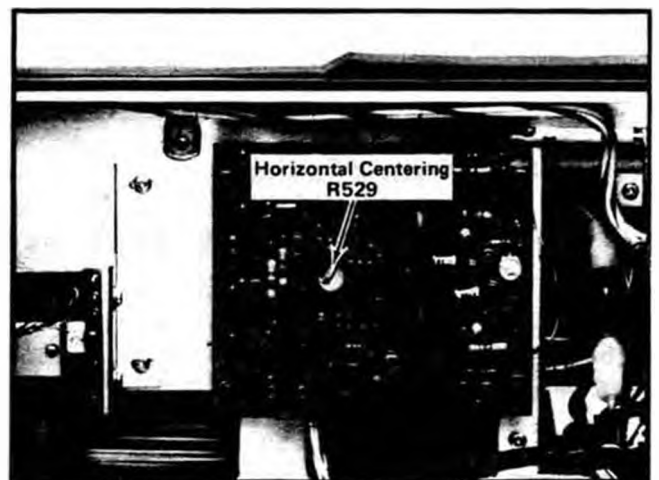

Fig. 5-14. Location of Horizontal Centering adjustment R529.
e. ADJUST—Horizontal Centering adjustment R529 (see Fig. 5-14) to position the trace to the graticule vertical center line.